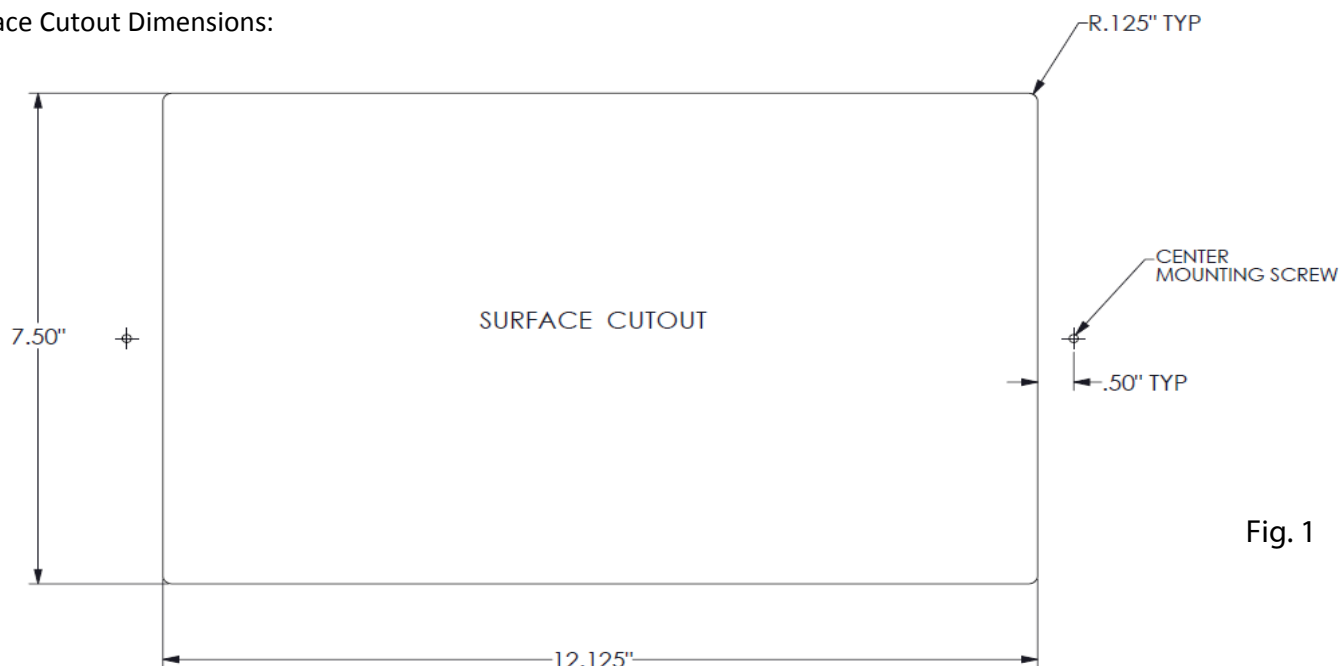

Fig. 1
1. Provide a cutout in surface for the Marina HDMI at desired location as shown in Fig. 1. (Note Fig. 1 represents underside of work surface)
2. Mark or pilot drill the location for center mounting screws as shown in Fig. 1. Note: Use caution that any pilot holes do not pierce finished surface.
1. Install 1 - #10 pan head screw (not provided) into center mounting screw position on underside of work surface, see Fig.1. Do not fully tighten screw at this point. Note: Ensure all screws will not pierce finished work surface.